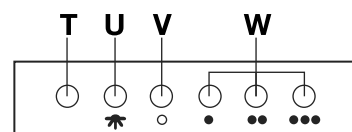

Fig. 2
- The hood should be left on after cooking for about 15 minutes or until all the odours have disappeared. The control switches are located on the unit's front panel: **Fig. 2**